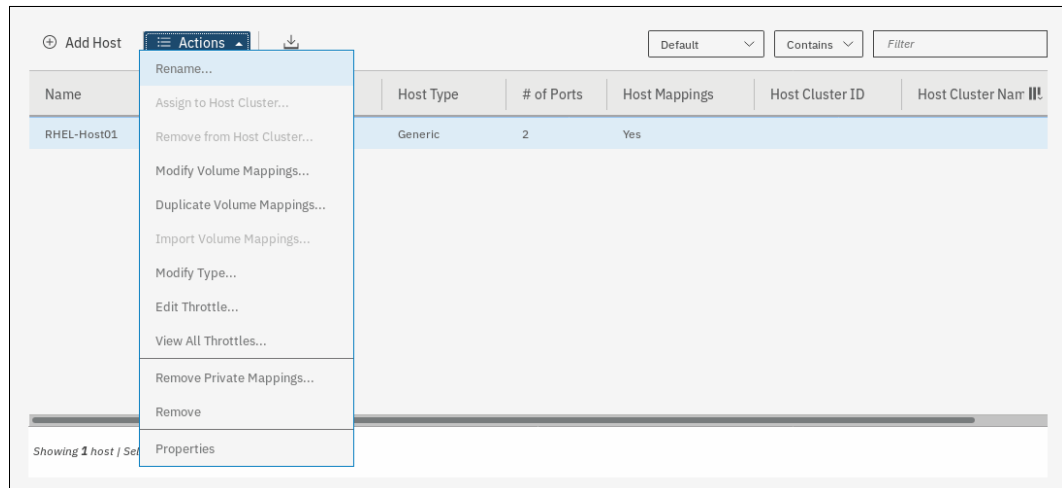

Figure 8-15 Selecting Rename action for host
2. Select the host that must be renamed and click **Action**. Then, click **Rename**, as shown in Figure 8-15.